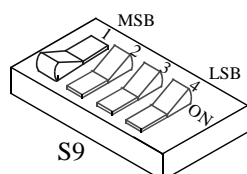

Figure 1-9 MLM S9 TEST MODE
3. Put S9 into Test Mode by setting the switch as shown in Figure 1-9. Reset switch S8 (see Figure 1-23) which must be pressed after changing the switches to actually enter the selected mode.